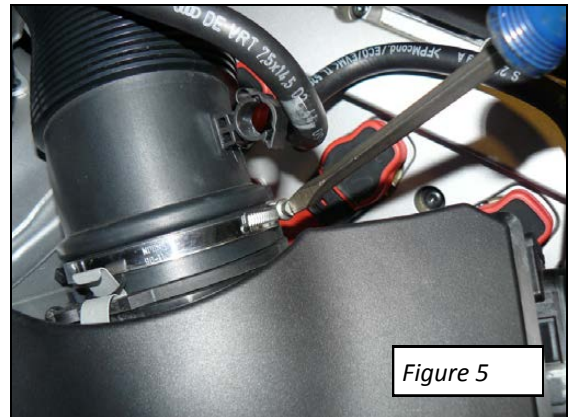

Figure 5
**If you are using the stock paper filter:** use a pair of wire cutters to first trim off the extra bosses on the base of the filter, at arrows in **Figure 5**.